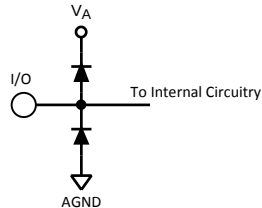

Figure 2.
- (1) The inputs are protected as shown below. Input voltage magnitudes above V_A or below GND will not damage this device, provided current is limited per Note 4 of the Absolute Maximum Ratings Table. However, errors in the A/D conversion can occur if the input goes above V_A or below GND by more than 100 mV. As an example, if V_A is +3.3V, the full-scale input voltage must be $\leq +3.4V$ to ensure accurate conversions. See Figure 2.
- (2) To ensure accuracy, it is required that $|V_A - V_D| \leq 100\text{ mV}$ and separate bypass capacitors are used at each power supply pin.
- (3) With the test condition for $V_{REF} = +1.0V$ (2V_{P-P} differential input), the 12-bit LSB is 488 μV .
- (4) Typical figures are at $T_J = 25^\circ\text{C}$, and represent most likely parametric norms. Test limits are to AOQL (Average Outgoing Quality Level).
- (5) Integral Non Linearity is defined as the deviation of the analog value, expressed in LSBs, from the straight line that passes through positive and negative full-scale.
- (6) Optimum performance will be obtained by keeping the reference input in the 0.8V to 1.2V range. The LM4051CIM3-ADJ (SOT-23 package) is recommended for external reference applications.
- (7) This parameter is specified in units of dBFS - indicating the equivalent value that would be attained with a full-scale input signal
- (1) The inputs are protected as shown below. Input voltage magnitudes above V_A or below GND will not damage this device, provided current is limited per Note 4 of the Absolute Maximum Ratings Table. However, errors in the A/D conversion can occur if the input goes above V_A or below GND by more than 100 mV. As an example, if $V_A = +3.3V$, the full-scale input voltage must be $\leq +3.4V$ to ensure accurate conversions. See Figure 2.
- (3) With the test condition for $V_{REF} = +1.0V$ ($2V_{P-P}$ differential input), the 12-bit LSB is 488 μV .
- (4) Timing specifications are tested at TTL logic levels, $V_{IL} = 0.4V$ for a falling edge and $V_{IH} = 2.4V$ for a rising edge.
- (5) Typical figures are at $T_J = 25^\circ C$, and represent most likely parametric norms. Test limits are to AOQL (Average Outgoing Quality Level).
- (6) This parameter is ensured by design and/or characterization and is not tested in production.